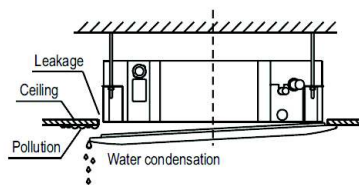

Fig. 4-24
- Malfunction described in Fig.4-24 can be caused by inappropriate tightness the screw.